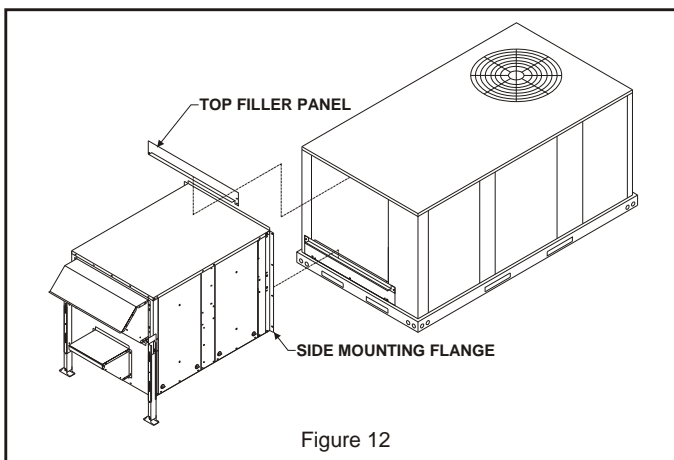

Figure 12
8. Insert top filler panel under the rooftop unit top panel with 1" flange pointing out away from unit and on top of ERS top panel to provide a rain seal. **See Figure 12.**
9. Use provided 10-16 x 1/2" self-tapping screws to secure the of the ERS to the rooftop unit. **See Figure 12.**